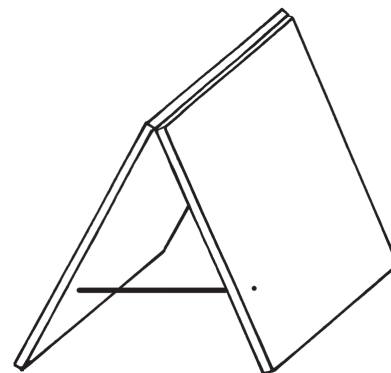

Figure 11
- 4. Show on the drawing in Figure 11 in which direction the corrugations should go to make the strongest supports for your table.